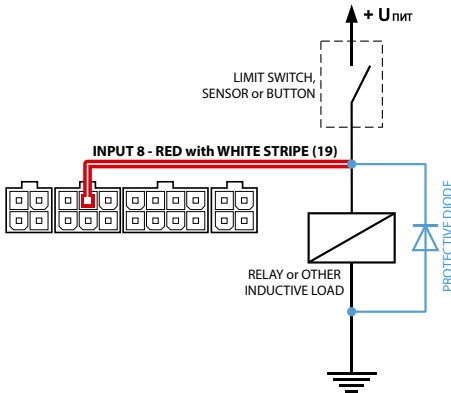

Fig 1.
**1. Protective diode** (fig. 1) – to be installed in parallel to the inductive load. In this case, forward current of the protective diode ( $I_{fw}$ ) should be at least  $1.5 \cdot I_{\text{holding, coil}}$ . If the coil holding current is unknown or uncertain, use the option with safety relay protection.